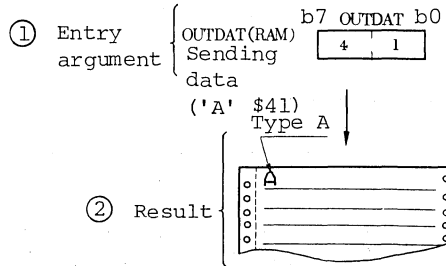

Figure 12-13. Example of EXPOUT Execution
b. Example of EXPOUT execution is shown in figure 12-13. If entry argument is as shown in part ① of figure 12-13, a character is printed as shown in part ② of figure 12-13.